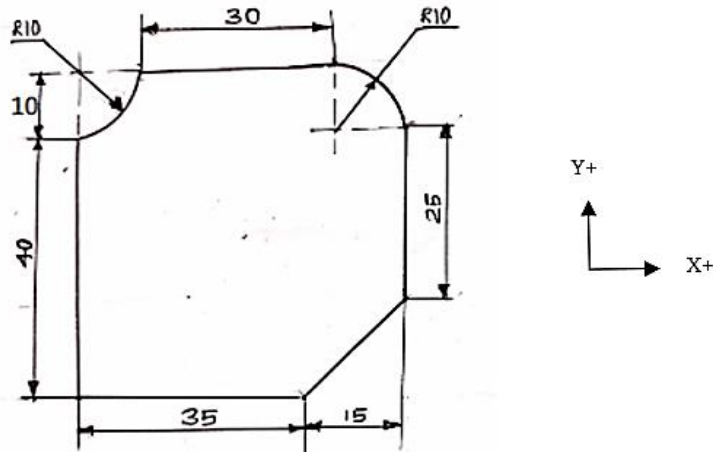

Fig.1
12. a) Explain with neat sketches any one method to produce metallic powders in powder metallurgy. (7)
b) Differentiate orthogonal and oblique cutting using appropriate diagrams. (7)
13. Write a Manual Part Program for milling the part shown in figure (Fig. 1) (14)